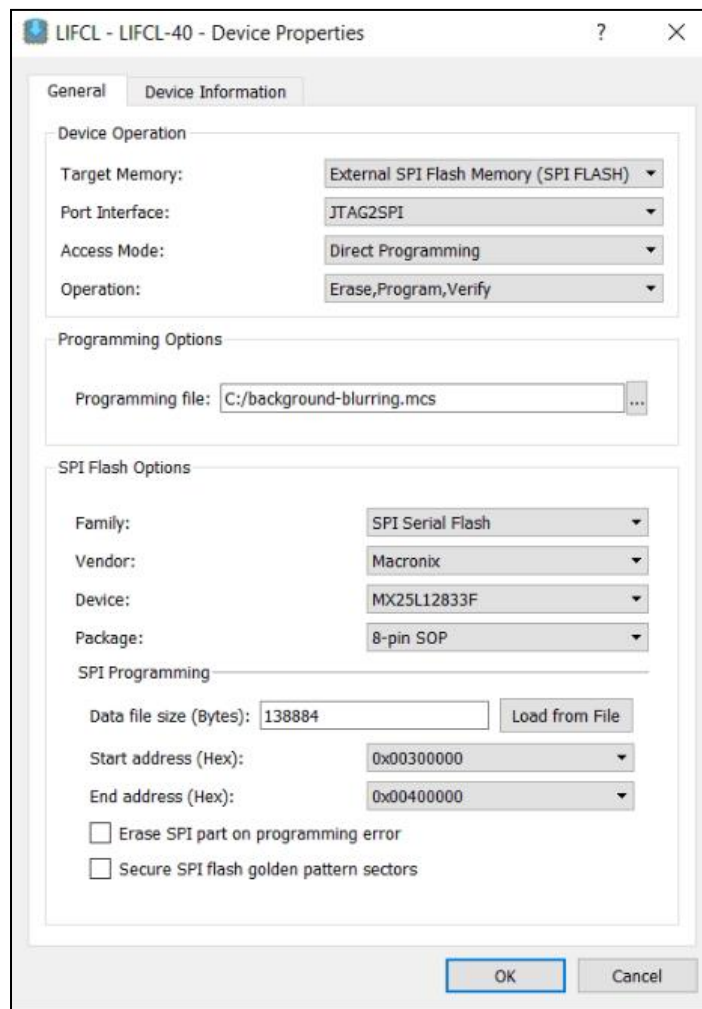

Figure 4.9. Radiant Programmer – Selecting Device Properties Options for CrossLink-NX Flashing
2. In the Radiant Programmer main interface, right click the CrossLink-NX row and select Device Properties to open the Device Properties dialog boxes as shown in Figure 4.9.
5. For SPI Flash Options, make the selections in Figure 4.9 above to select the Macronix 25L12833F device.